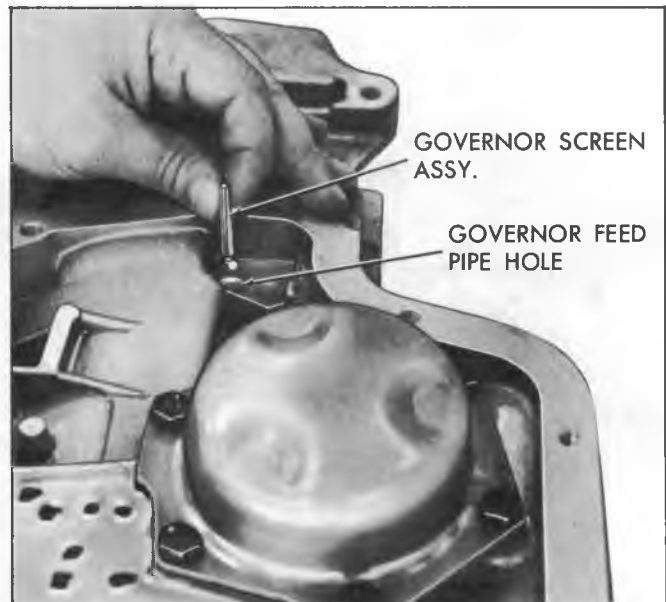

Fig. 150T--Installing Governor Screen Assembly
2. Install governor screen assembly, open end first, into governor feed pipe hole in case (hole nearest the center of the transmission) (Fig. 150T).
**NOTE:** If transmission is in vehicle, before installing the control valve assembly and governor pipes as outlined in Step 3 below, insert the governor screen, closed end first, into governor feed pipe. (This pipe locates in the governor feed pipe hole in the case nearest the center of the transmission). SEE figure 150T.